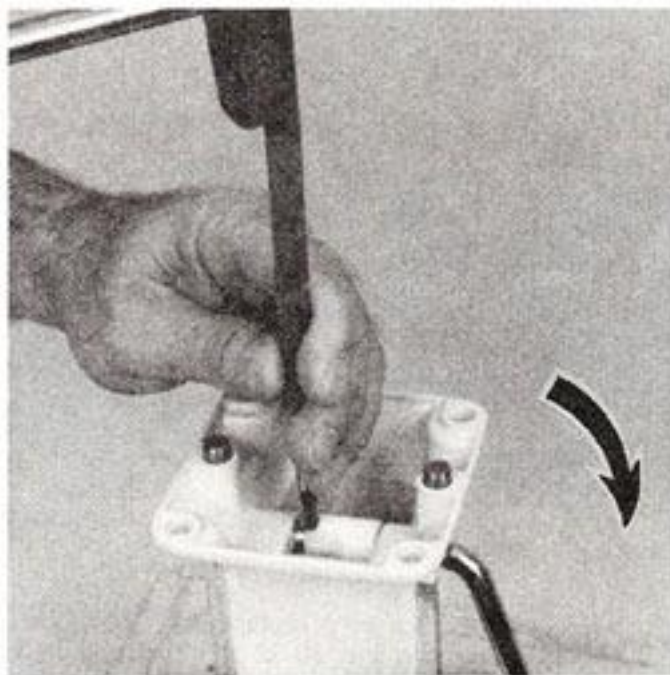

Fig. 93
- H. Hold the bowl lift arm with large end of the tapered hole up. Start bowl lift handle into the arm. Hold handle so it is pointing down. Push it all the way through the arm and into the bearing hole in the column. Place small end of the tapered pin in the arm and drive it through the lift handle (Fig. 93). Be sure the pin is very tight.